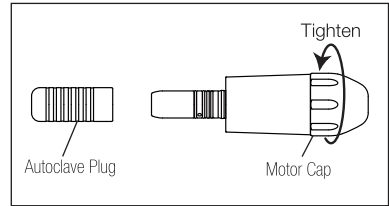

Fig.10
- 4) Screw the Motor Cap to the Motor. Put the Autoclave plug to the motor insert. (Fig. 10)